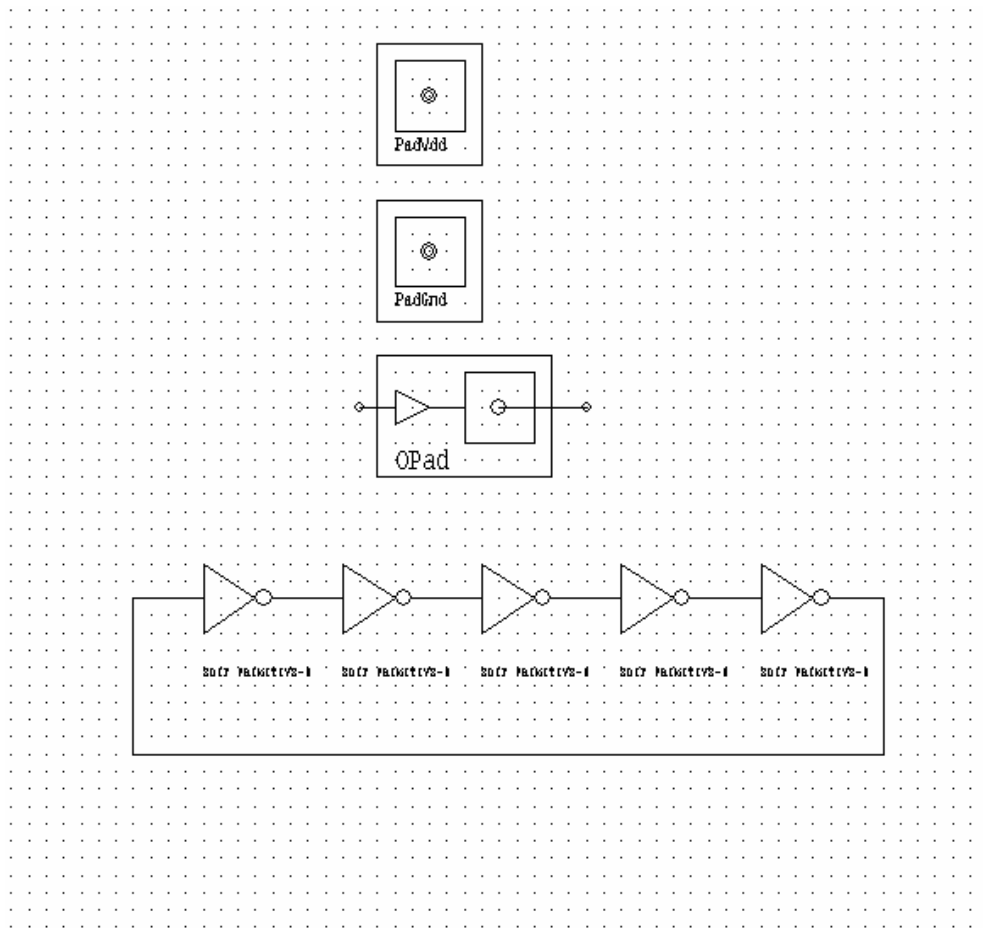

Figure 29. Power and Output Pads Placed
2. In the list on the left, select Inverter and click the Place button, then click Close. An inverter will now be placed on your schematic, as shown in Figure 29. Since we are making a ring oscillator, we need five inverters – so using either Ctrl+C or Edit → Copy, copy the inverter, and then paste it four times using either Ctrl+V or Edit → Paste.